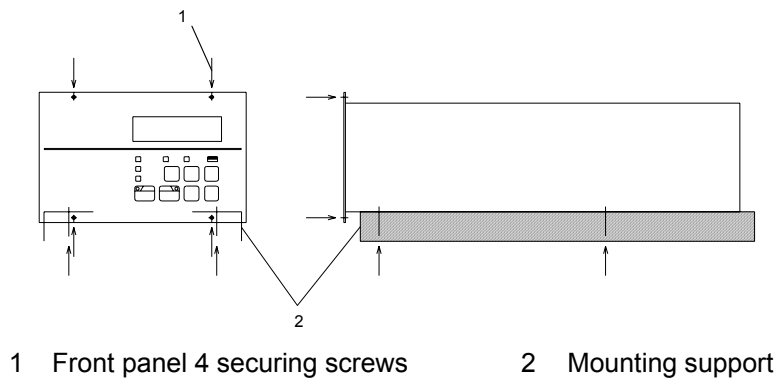

Figure 13 - Example of securing the SCU-800
Note: For the dimensions of the front panel and positions of the screw holes for the rubber feet, refer to Figure 10 and Figure 13.
- Attach the front panel to the rack using the 4 screws Figure 13 (1).
- Support the SCU-800 from the bottom using a support angle Figure 13 (2) or a similar tool.